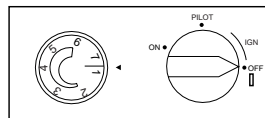

Figure 19 - Dual Control for Thermostat Model FBS-10BB
3. Push in control knob slightly and turn clockwise  to the OFF position (see Figure 19). Be sure that the temperature setting knob is set at the line between level 1 and level 7.
5. Push in and turn control knob counterclockwise  to PILOT position. Press in control knob for five(5) seconds.
7. Press in control knob and turn counterclockwise  past IGN to PILOT (see Figure 19). This will cause the piezo ignitor to spark and light the pilot gas. Keep control knob depressed for 10 seconds before releasing. If needed, repeat steps 5 through 7 until pilot lights.
8. When pilot is lit, turn the ignition knob to ON position (see Figure 19).
9. To select desired heating level, turn the temperature setting knob counterclockwise  between 1 and 7 (see Figure 19).